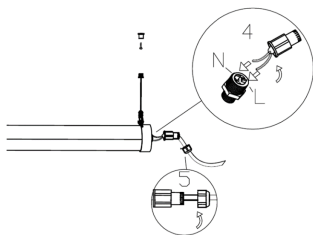

Fig. 3
- Connect the luminaire to the mains supply ensuring the correct polarity is observed (see Fig. 3): L – Live (brown) and N – Neutral (blue)